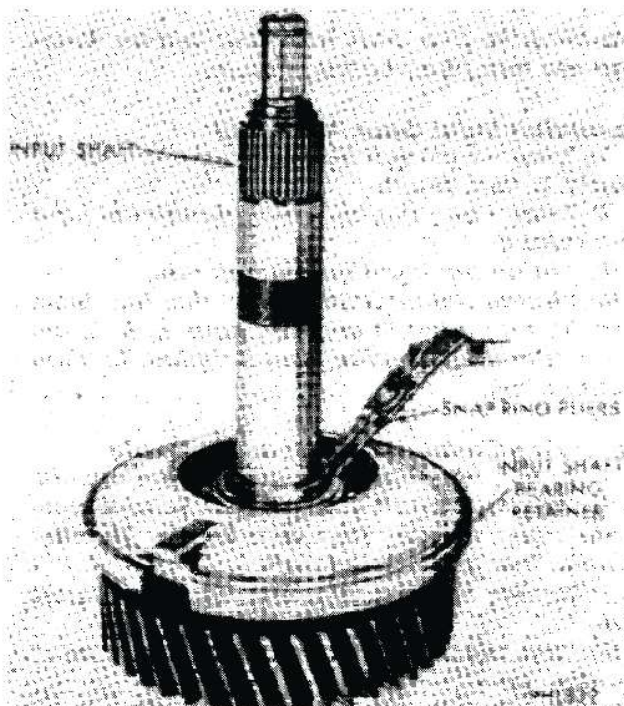
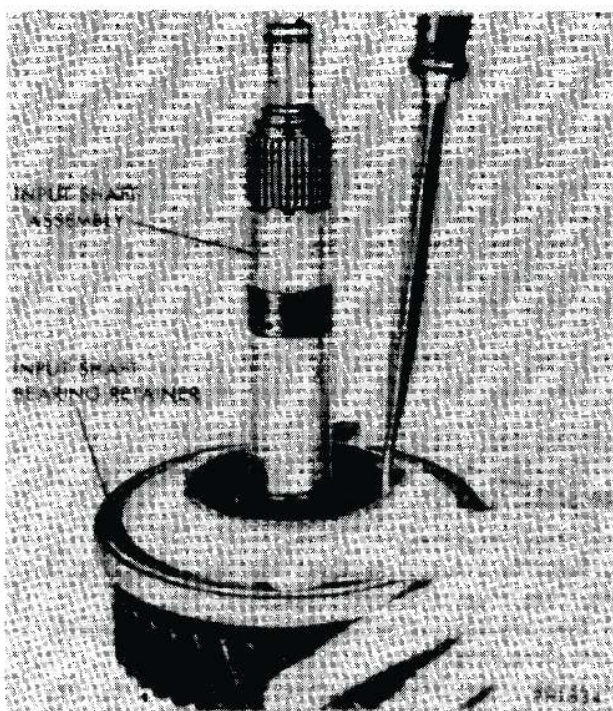

Fig. 17—Removing Input Shaft Bearing Retainer
Fig. 18—Removing Lock Ring
- (1) Slide thrust washer and spacer from shaft.
- (2) Using snap ring pliers, remove retainer from input shaft (Fig. 17).
- (3) Tap shaft out of low speed gear. Observe two thrust washer pins in shaft.
- (4) With screwdriver remove lock ring out of bearing retainer (Fig. 18). Tap bearing out of retainer bore.
- (5) Remove roller bearings (15) from end of input shaft.
- (6) Remove and discard "O" ring from end of shaft.
- (7) Clean and inspect all components. Replace if worn or damaged.